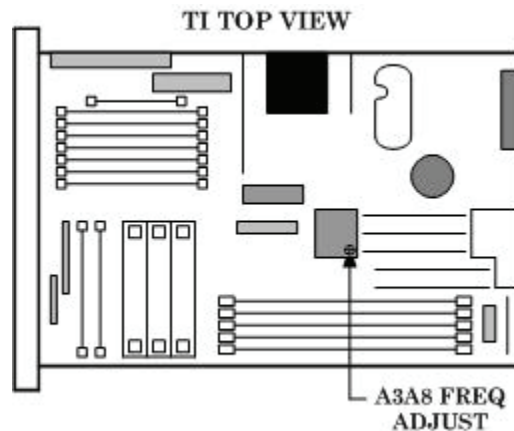

Figure 1. Frequency adjust location.
- f. Adjust A3A8 FREQ ADJUST (fig. 1) for minimum frequency difference meter indication.